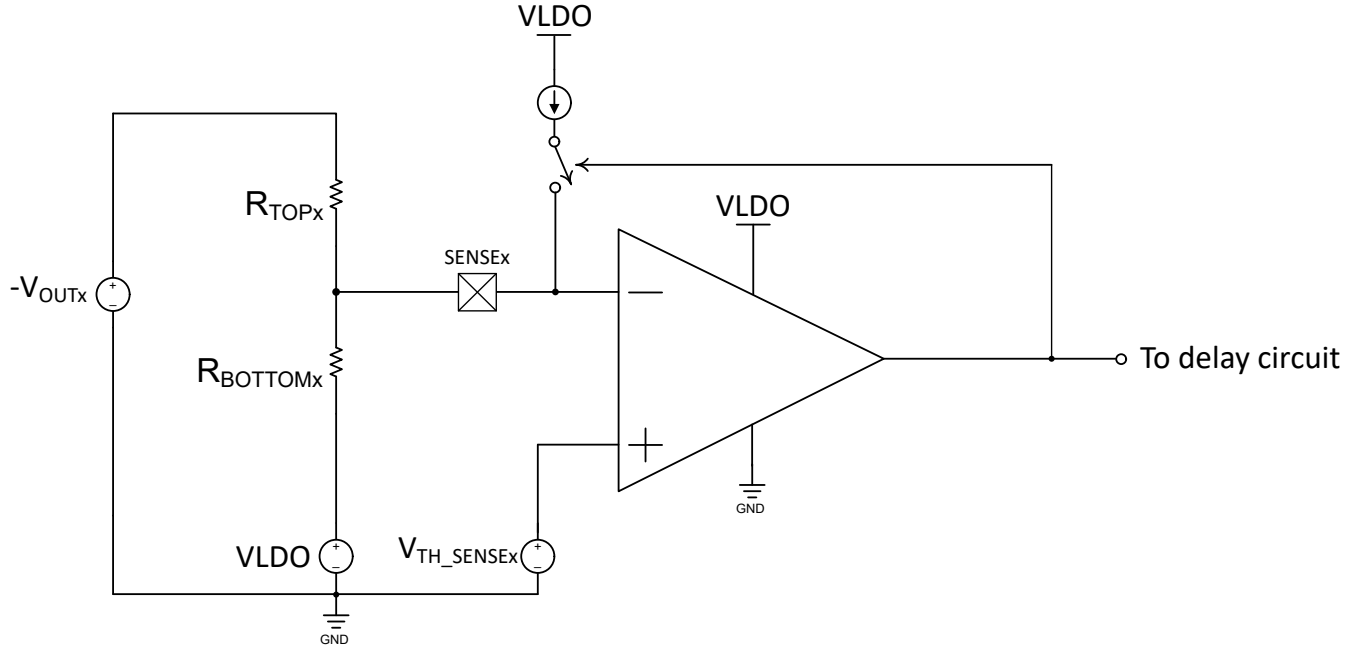

Figure 9-4. Negative Voltage Monitoring on the TPS7H3xx4 using VLDO
The TPS7H3xx4 can be used to monitor negative voltages by level shifting the attenuated sensed voltage. Since the SENSEx inputs are referenced to GND, we can use a stable positive reference voltage to level shift the SENSEx input. In the case of the TPS7H30xx4 the VLDO pin can be used as the stable positive reference voltage, refer to Figure 9-4. When $-V_{OUTx}$ is at zero volts, the voltage at SENSEx is above the threshold due to the offset voltage, as the $-V_{OUTx}$ starts regulation the SENSEx node is pulled to a lower voltage. For this reason when the $-V_{OUTx}$ rail needs to be monitored for undervoltage events (UV), an overvoltage (OV) channel needs to be used, and viceversa.